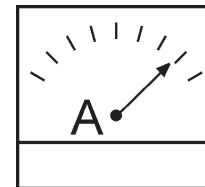

Figure 48. Ammeter (Load)
12. Observe the generator's ammeter (Figure 48) and verify it reads the anticipated amount of current with respect to the load. The ammeter will only display a current reading if a load is in use.